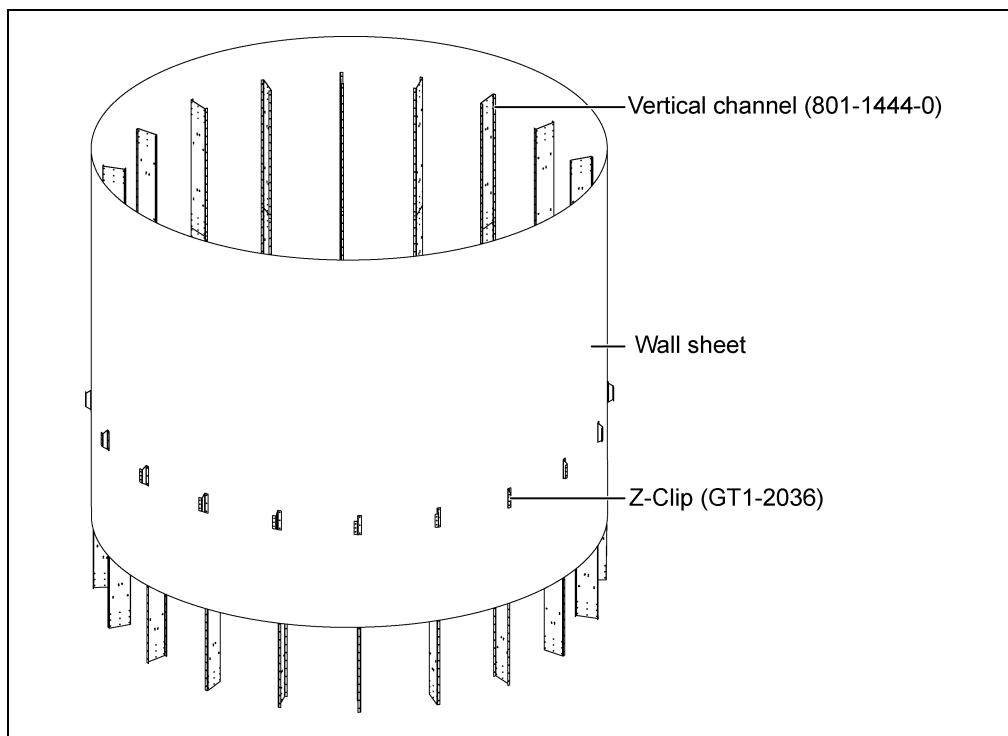
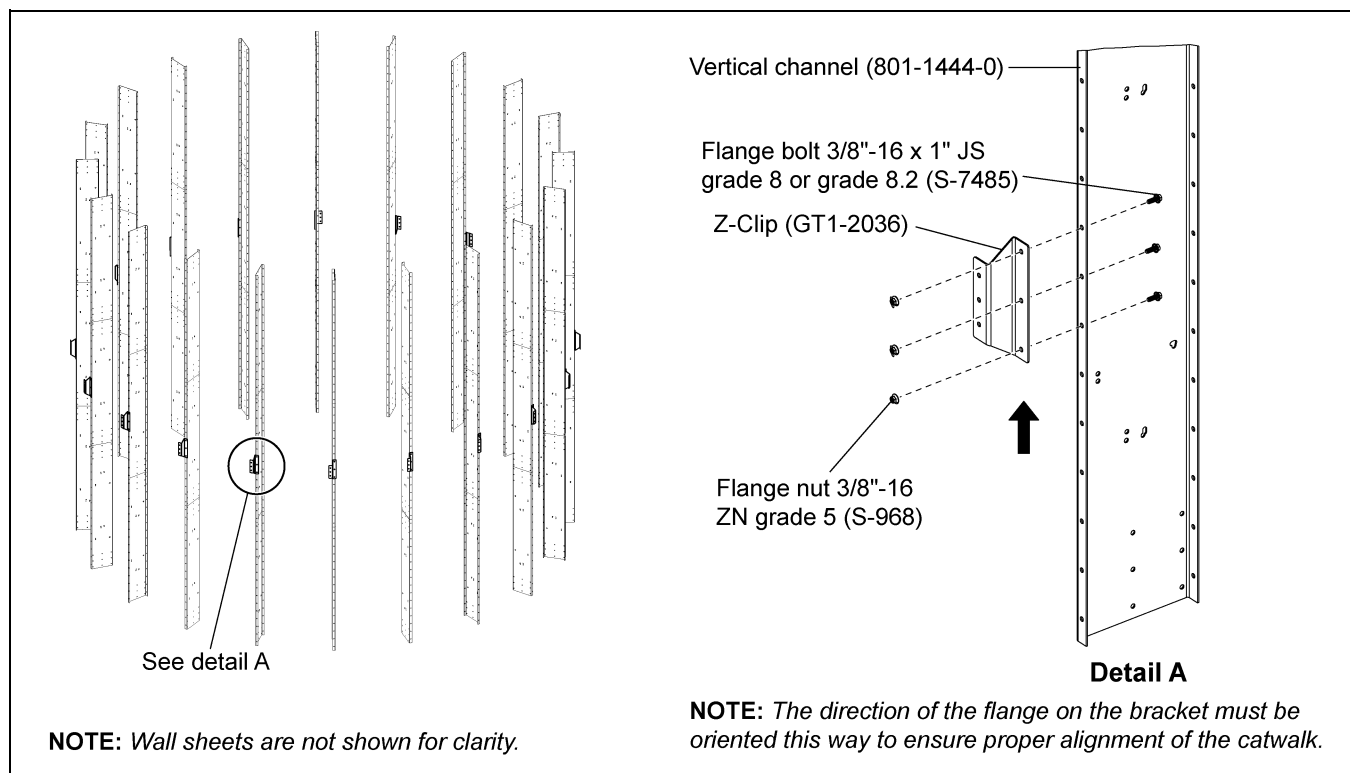

Figure 4A
Figure 4B
1. Bolt Z-clip (GT1-2036) to all vertical channels (801-1444-0). The Z-clip can be installed on each vertical channel as wall sheets are installed using 3/8"-16 x 1" JS grade 8 or grade 8.2 bolts (S-7485) and 3/8"-16 ZN grade 5 nuts (S-968). (See Figure 4A and Figure 4B.)